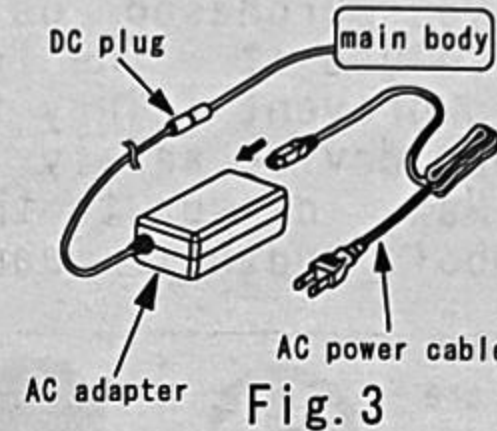

Fig.3
- Plug the included AC power cable into the AC adapter and connect the DC plug to the jack at the end of the input cable that exits the main unit. (Fig.3)